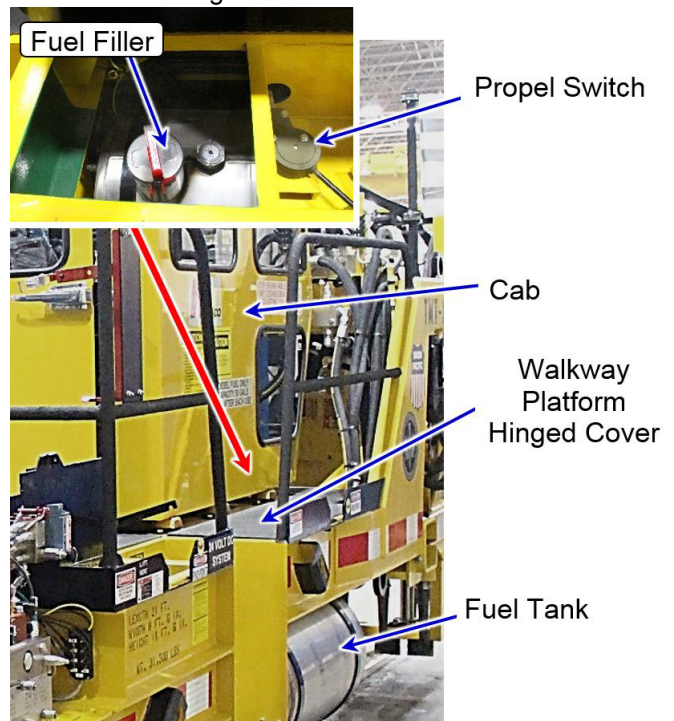

Figure 6-27: Propel Switch Location, Right
Two (2) switches are on the machine to disengage and engage the propel motors. These switches are located in the cavity next to the fuel fillers on each side of the machine. See Figure 6-27.